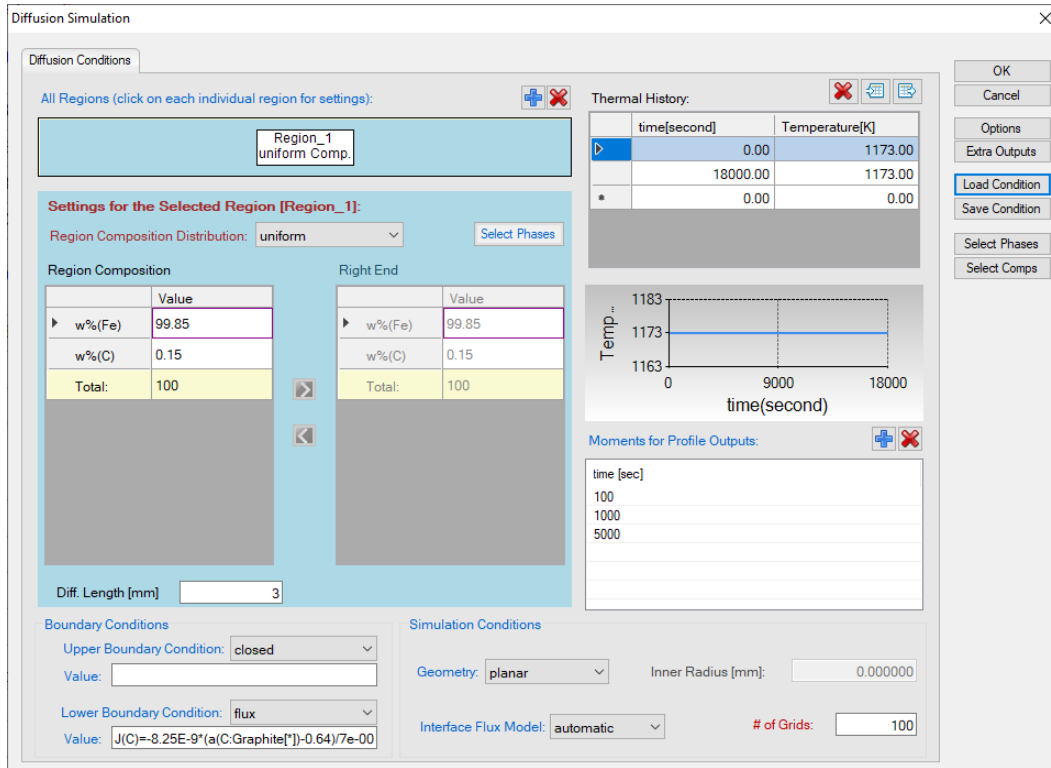

Figure 4.7.1: Setting of the simulation condition
- Click on "PanDiffusion->Diffusion Simulation" and set up the calculation condition as shown in Figure 4.7.1. First click the red "X" above Regions setting to delete Region_2. Click on Region_1, set the composition as 0.15C-99.85Fe (wt%), the Diff. Length as 3 mm, and the # of Grids as 200.
- In the setting shown in Figure 4.7.1, composition profiles at the initial and final stages, as well as at 100s, 1000s and 5000s, will be outputted. Click OK to perform calculations.